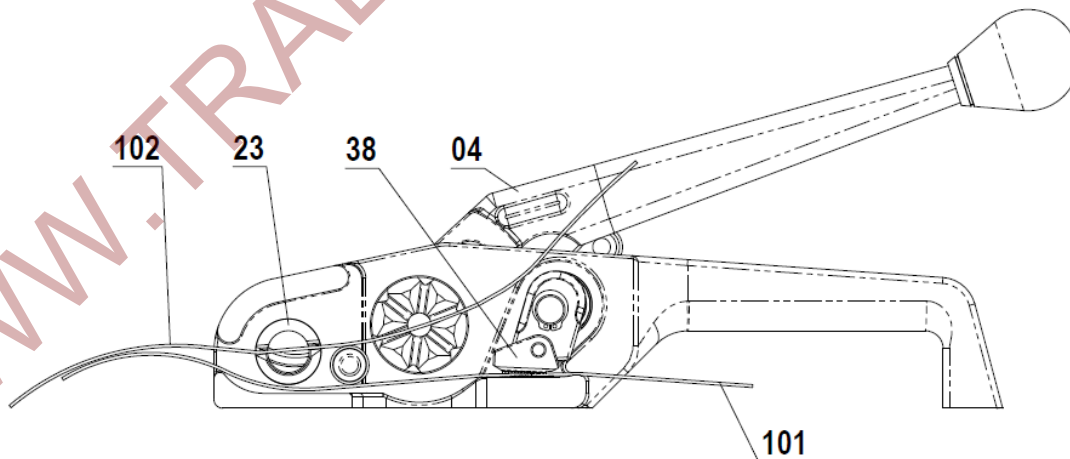

Fig. 3
2. Load upper strap **102** through **Cutter Housing 23**, through **Windlass 60** as shown on Fig. 3.